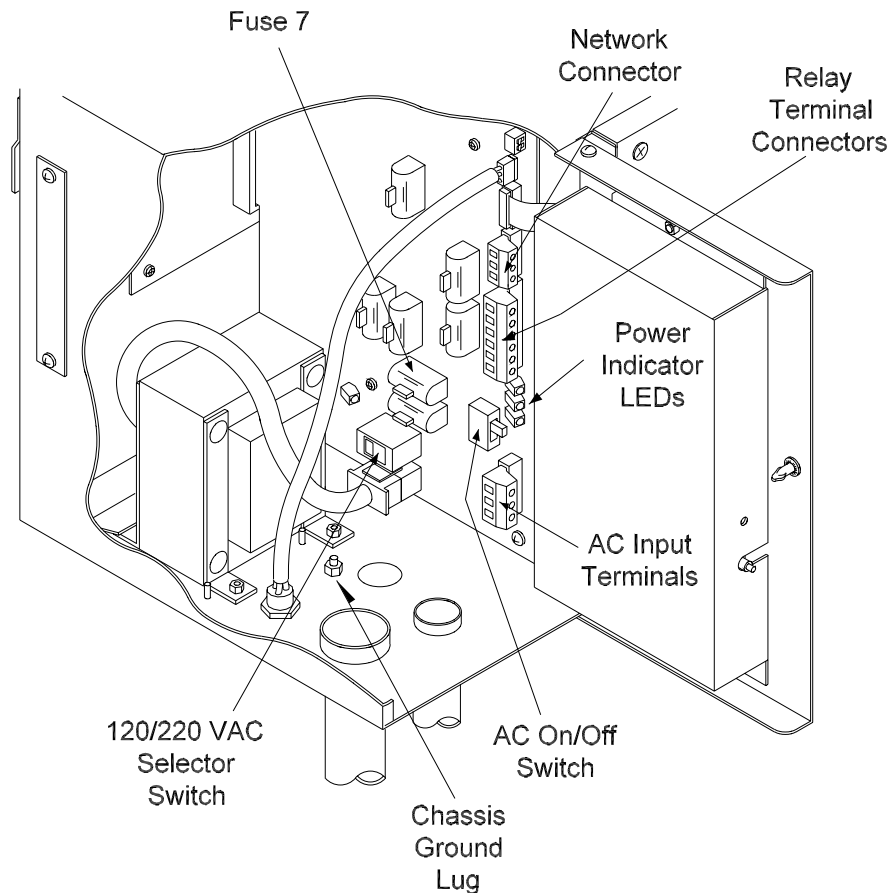

Figure 4.1 Cutaway of the Prolink main data chassis and detailed AC connection
Before beginning the power connections please read “*Installation Do’s and Don’ts*” found in **Chapter 1**. While making AC connections, please refer to the instructions that follow *figure 4.1*.
Step 2: Make sure that the power supply circuit board AC On/Off switch is in the **OFF** position (Down). Refer to *figure 4.1*.
Step 3: In conduit, run a (3) conductor, minimum 16-gauge, gas and oil resistant cable from a **circuit breaker protected, dedicated isolated circuit** to the AC input terminals on the Prolink power supply circuit board. These terminals are marked on the circuit board underneath each terminal.
Step 6: Connect the appropriate wire to the **GND** terminal, and to the chassis ground lug. Refer to figure 4.1 (For Canada installation only).
Step 8: Slide the power supply circuit board AC On/Off switch to the ON position (UP). The Power On LED (green) should now be lit. This LED indicates that the power supply and circuit board are energized.